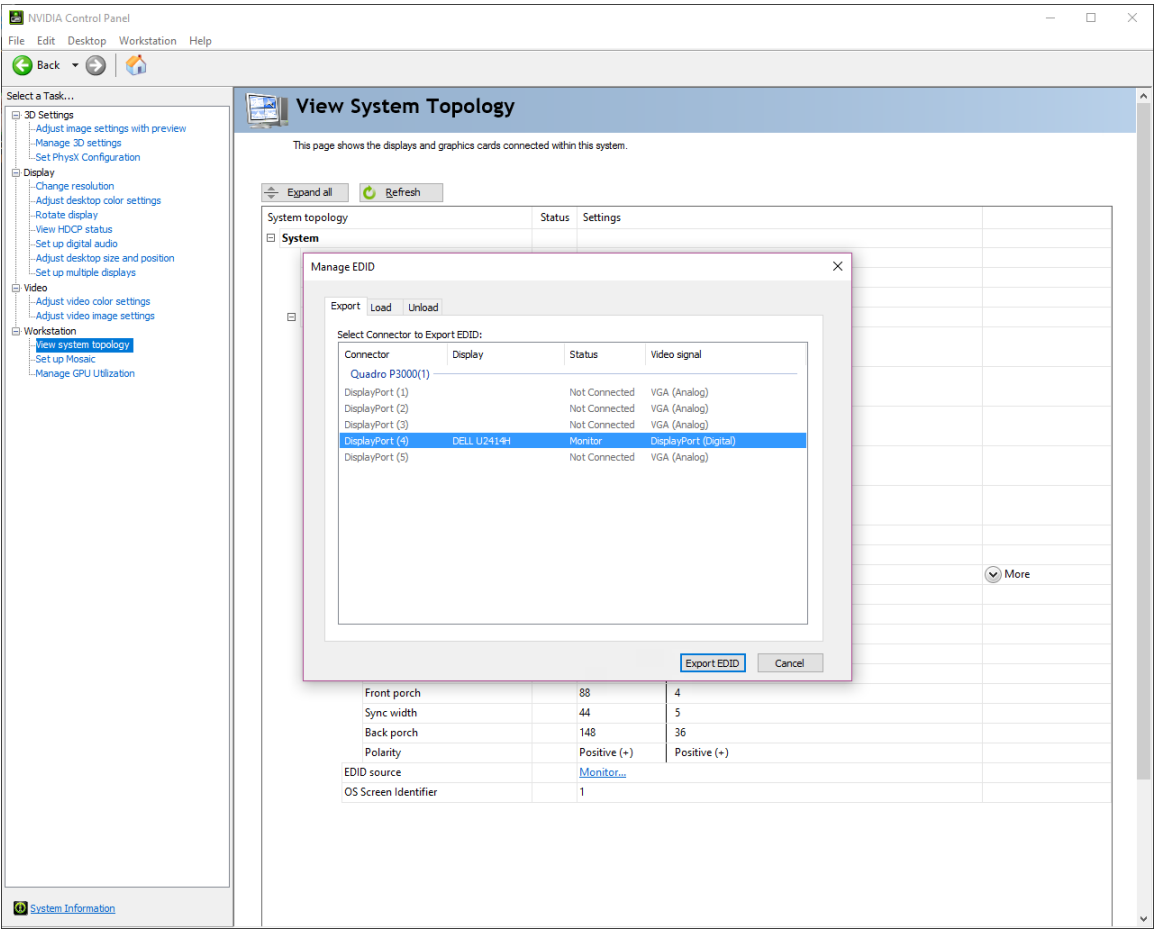

Figure 4
- 1. To export EDID from a display, select an active display and the Export tab (figure 4).